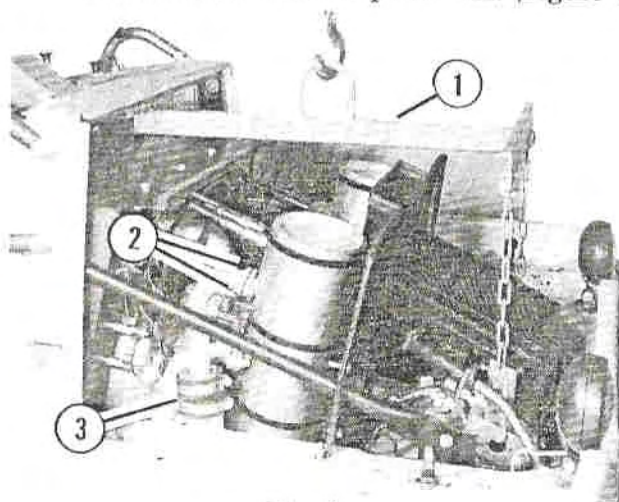

Fig. 4
8. Loosen the tail pipe clamps under the body and separate the pipes. The tail pipe can be removed by removing the rear clamp and swinging the tail pipe away from the body. Loosen the lower clamps on the exhaust pipe body seal and the exhaust pipe to muffler connections. The exhaust pipe and body seal will now come out with the power unit (Figure 4).
12. A hydraulic or chain hoist should be used to lift the power unit from the vehicle. Attach the lift bar (Figure 4). If chains are used, hook them to the lift brackets on each hydrostatic transmission and to each handhold. Use care in positioning the chains to prevent scratching and marring the paint.